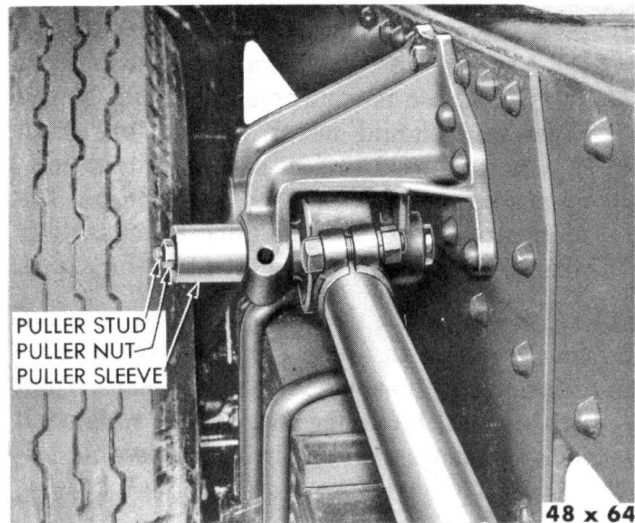

Fig. 138—Removing Frame Bracket Upper Torque Rod Pin—Puller DD-1094
- (2) Remove the torque rod pin cap screw and install a suitable puller, as shown in Figure 138, and remove the pin.